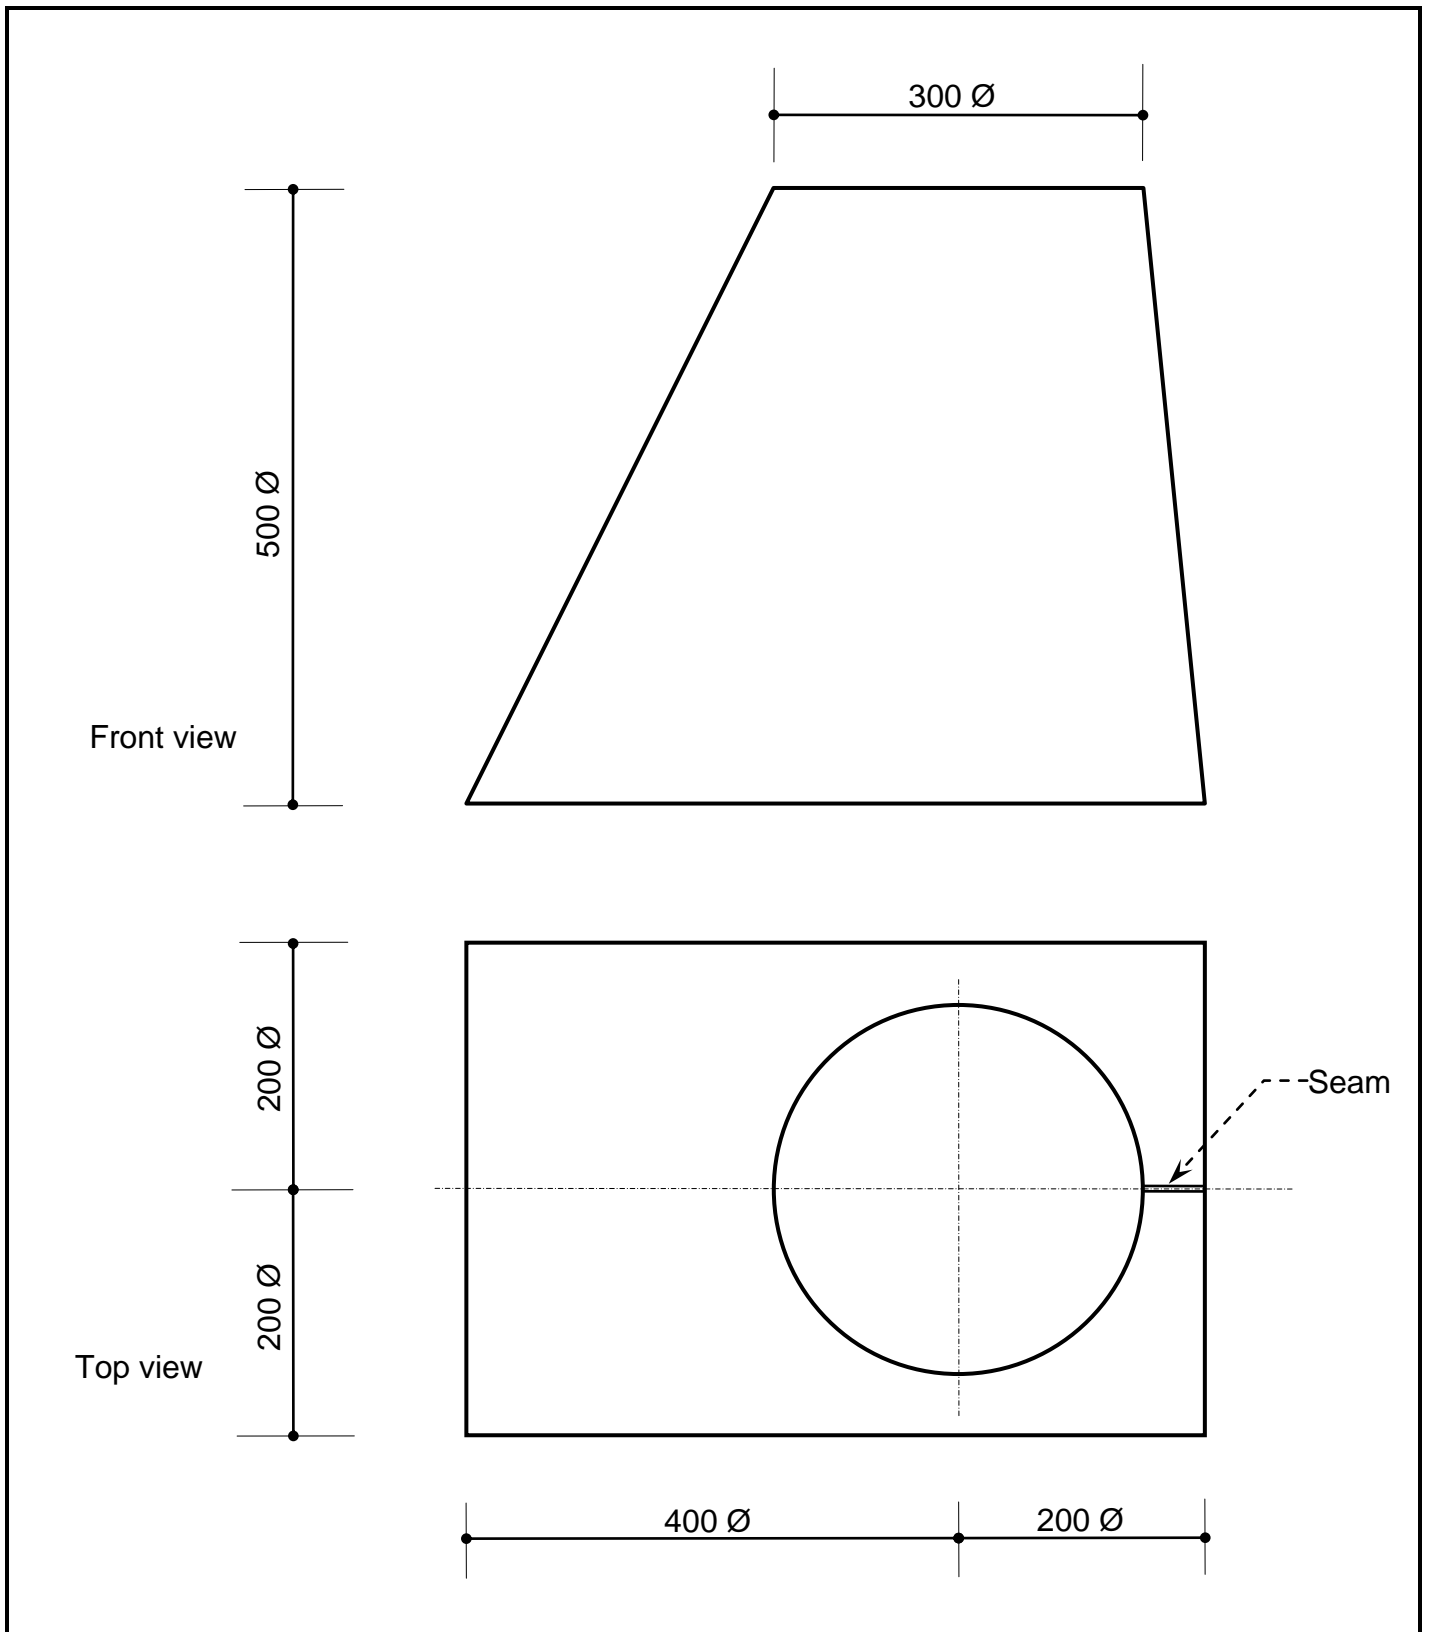

FIGURE 2
- 4.1 FIGURE 2 on DIAGRAM SHEET 2 (attached) shows a transition piece that connects a 400 mm × 600 mm rectangular air-conditioning duct to a 300 mm Ø pipe. (7)